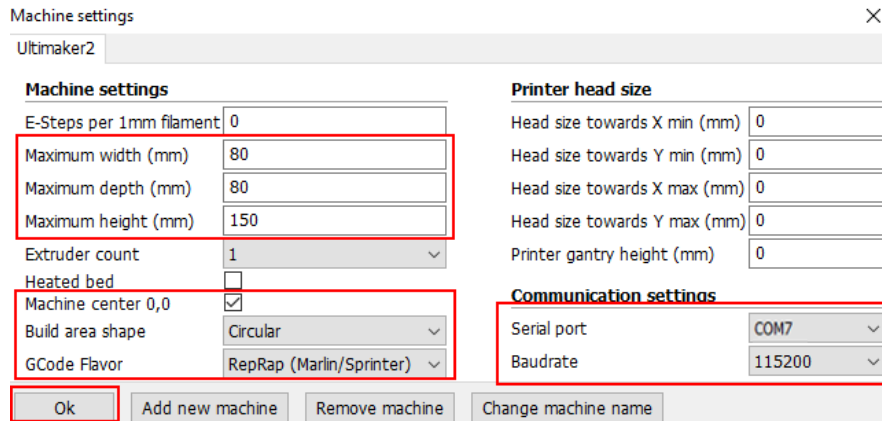

Figure 6.21 Parameters setting
2. Set the corresponding parameters on the Machine settings and click **OK**, as shown in Figure 6.21. Table 6.8 lists the values of the parameters that need to be set. The other parameters are set by default.